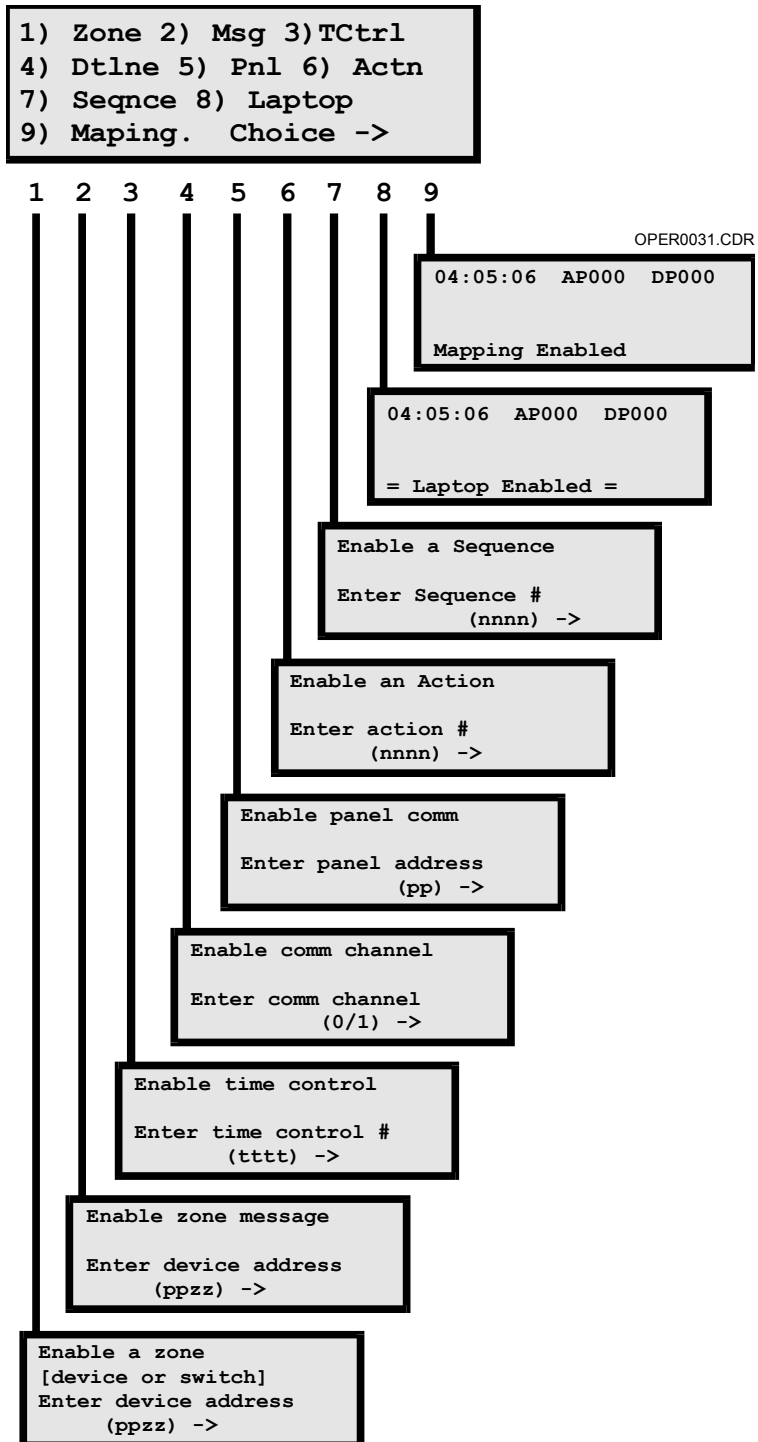

Figure 2-1: Enable Menu sequence
The level 2 or 3 password is required to use the enable function. Pressing the ENABLE switch brings up the menu sequence in Figure 2-1. Enabling a point will decrement the Disabled Points (DP) counter on the LCD display. Press the Enable switch a second time to exit the enable menu.